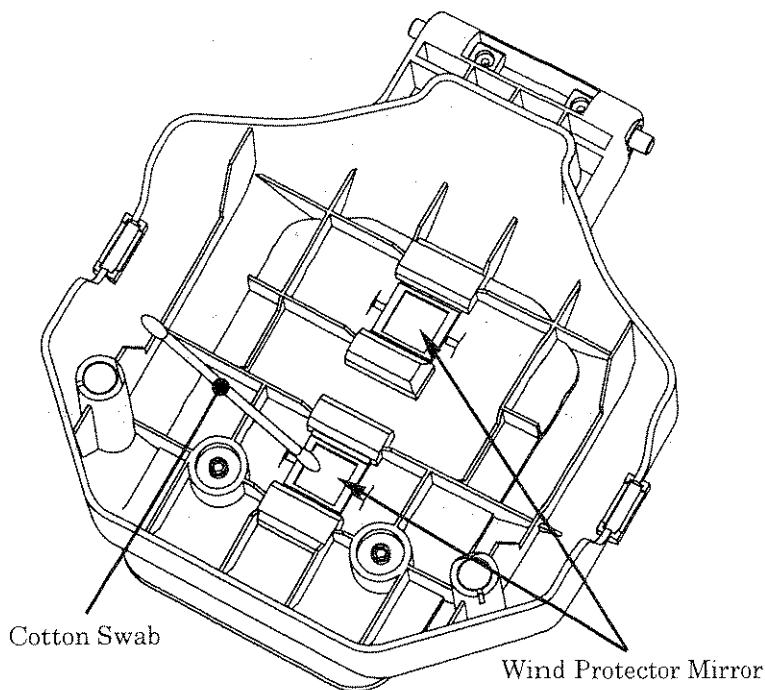

Fig. 5-4. Cleaning Wind Protector Mirrors
- (1) Clean the mirror surface with an alcohol-impregnated thin cotton swab as shown in Fig. 5-4. Remove excess alcohol from the mirror surface with a clean dry swab.